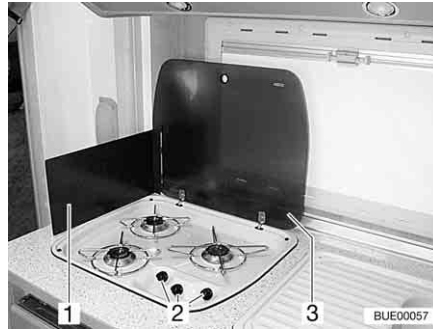

Fig. 180 Gas cooker
A heat guard (Fig. 180,1) protects the furniture near the gas cooker.
- Open the gas cooker lid (Fig. 180,3).
- Turn the control knob (Fig. 180,2) on the burner you wish to use to the ignition position (large flame).